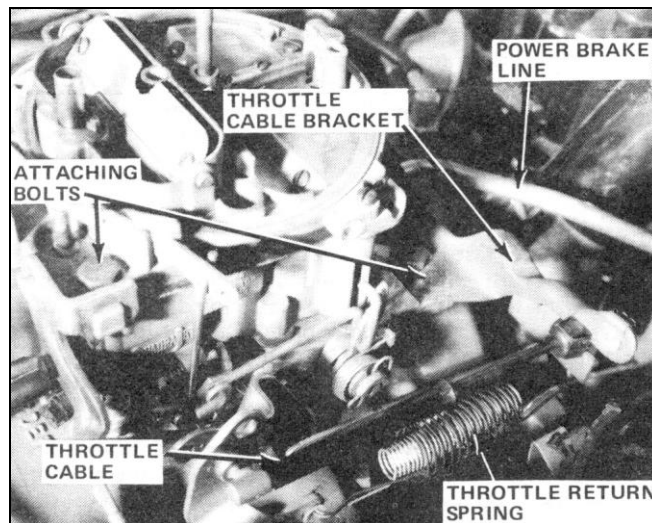

Figure 1
3. Remove the throttle linkage and automatic transmission controls from the throttle lever. Disassemble and save the throttle return spring from its two anchor points located on the throttle lever and throttle cable bracket as shown in Figure 1.